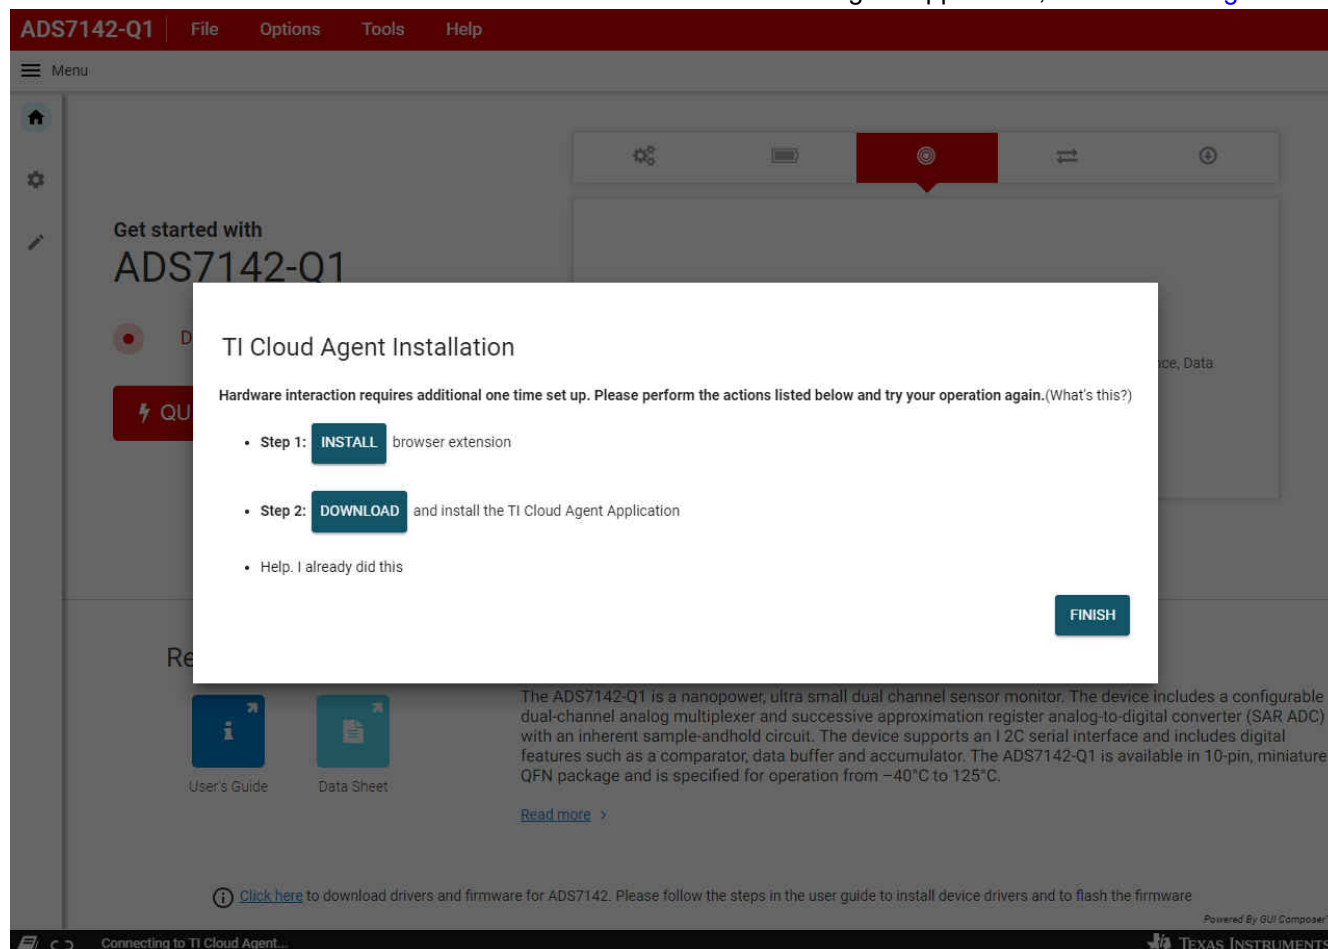

Figure 3-1. Installation of Browser Extension and TI Cloud Agent
2. Click on the BOOSTXL-ADS7142-Q1 GUI icon. First time users may be prompted to download and install the browser extension for Firefox™ or Chrome™ and the TI Cloud Agent Application, as shown in Figure 3-1.